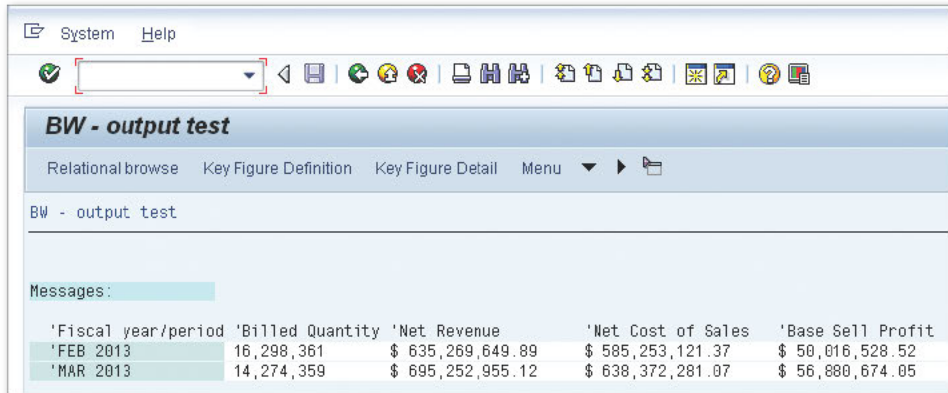

Figure 3 Results of the BEx Query in SAP NetWeaver BW
3. The results of the BEx query are returned in the SAP NetWeaver BW interface as shown in Figure 3. Click on the KEY FIGURE DEFINITION button in the report header.